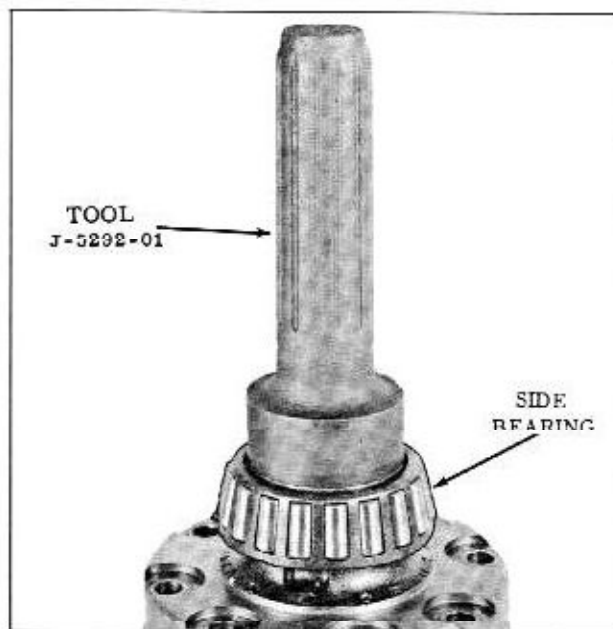

Fig. 6-43 Installing Side Bearing
2. If side bearings were removed, lubricate the bearings and install on case and case cover hubs as shown in Fig. 6-43.